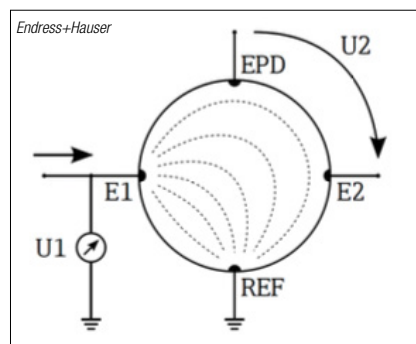

FIGURE 1. To measure buildup, a voltage distribution is generated within the measuring tube of the flowmeter
measure buildup. The measurement is based on the fact that the electrical conductivity of the fluid and the buildup differ from one another. A voltage is applied to one of the measuring electrodes, either E1 or E2 (Figure 1). This creates a voltage distribution within the measuring tube, originating from the excited measuring electrode and the reference electrode (REF). This voltage distribution (U2) is picked up by the opposing measuring electrode and empty pipe detection (EPD) electrode. This measurement is repeated on the opposing electrodes and averaged to generate a stable signal.
Additive manufacturing (AM) technologies are benefiting the chemical process industries (CPI) in two main ways. First, existing parts that have been in service for decades and require replacement can often be produced using AM, with much faster lead times and at a lower cost than with conventional manufacturing techniques. Second, entirely new equipment designs are now possible — for example, unique or more complex valve trims — leading to improved performance (Figure 1).
FIGURE 1. This prototype valve body was printed with hollow breakaway supports for development testing. Metal additive manufacturing allows for shorter lead times and quicker iterations during development, as compared to traditional fabrication methods. This facilitates faster overall development times and allows engineers to explore non-traditional designs